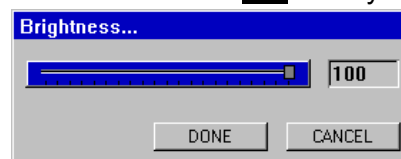

Figure 28: Brightness Menu
- 4 Press the rotary knob a second time to open the Brightness menu (see Figure 28 below).